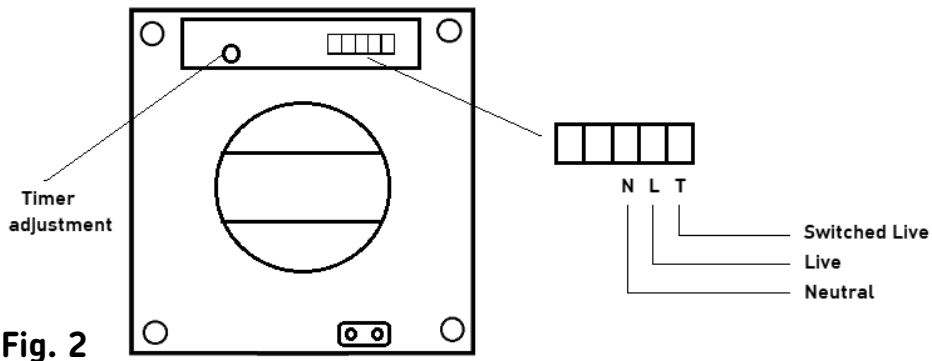

Fig. 2
- Ensuring correct polarity is observed, wire as shown in Fig. 2